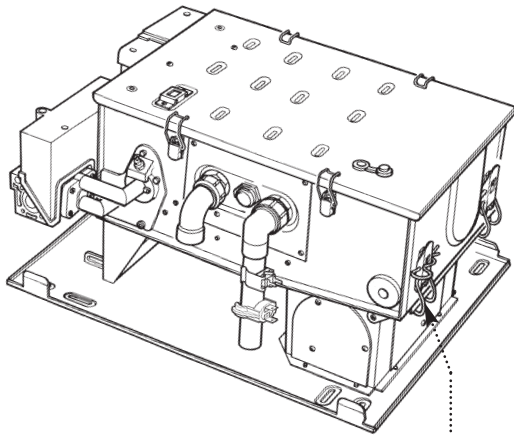

Fig. 14
4. Release the R clip from the top latch securing the combustion box to the back plate and release both latches (Fig. 14).